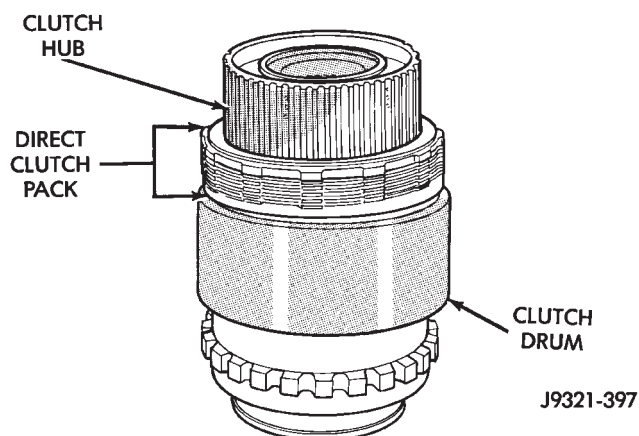

Fig. 293 Direct Clutch Pack And Clutch Hub Installation
(20) Install clutch hub and clutch pack on direct clutch spring (Fig. 293). **Be sure hub is started on sun gear splines before proceeding.**